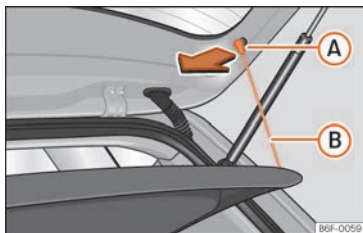

Fig. 108 In the luggage compartment: removing and fitting the shelf.
- Detach the cord loops » » Fig. 108 B from their hooks A.
- Hook the loops » » Fig. 108 B to the rear lid.